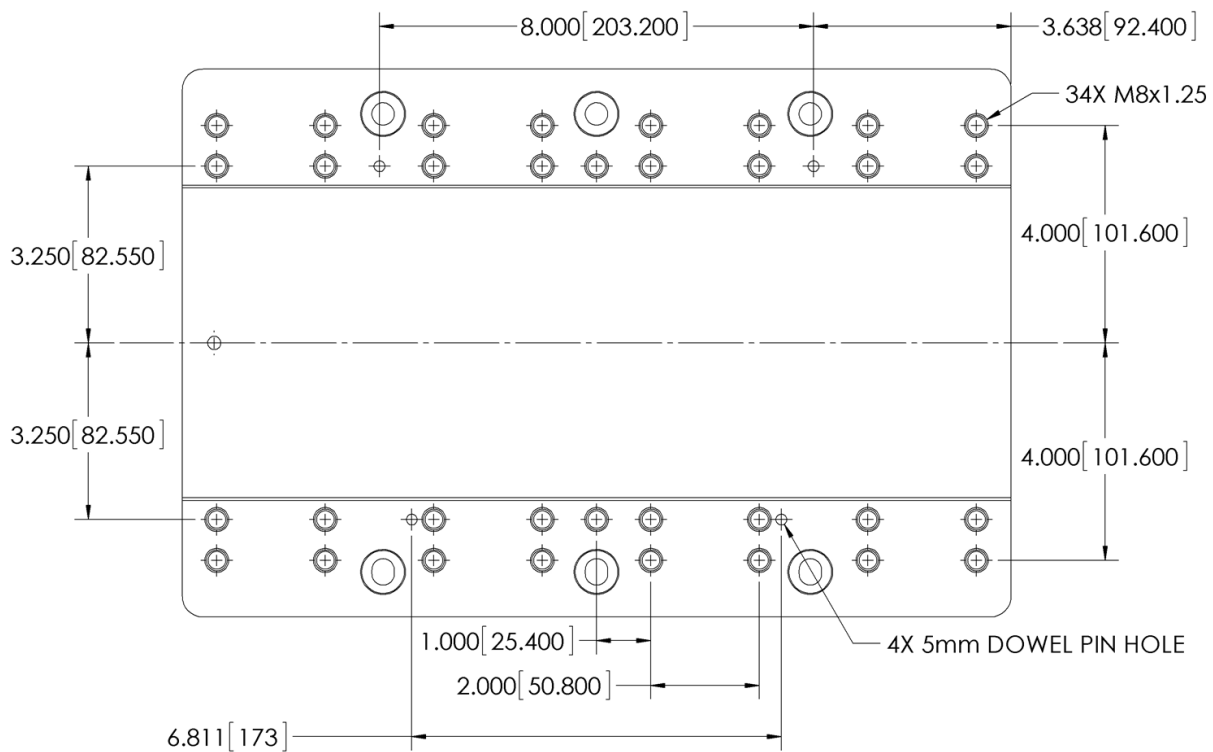

Figure 1: Carriage Bolt Hole Pattern
0.52 inch (13 mm) to provide secure attachment points. The mounting holes are spaced as shown in Figure 1. The Carriage also has two (2) 5mm dowel pin holes to be used for process equipment alignment. (See Figure 1 for location) These dowel pin holes are oversized to allow the pins to be glued into place using Loctite 609, or equivalent. **Only utilize 4 of the M8x1.25 mounting holes; using more than 4 may cause warping of the carriage.**